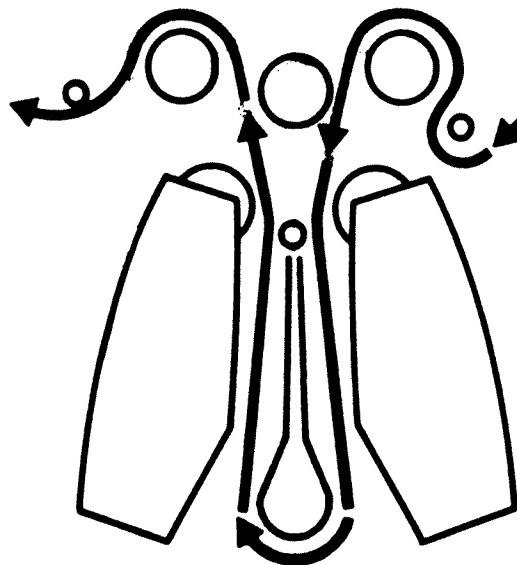

Figure 3-1. Tape Threading Path
- Step 6: Unwind sufficient tape from the full reel and thread the tape as follows: around the tension guide, the supply guide, between one of the pinch rollers and the capstan, past the Head Assembly, round the turnaround idler, past the second Head Assembly, between the second pinch roller and the capstan, round the take-up guide, round the safety switch guide post and onto the take-up reel. The complete tape path is shown in figure 3-1.